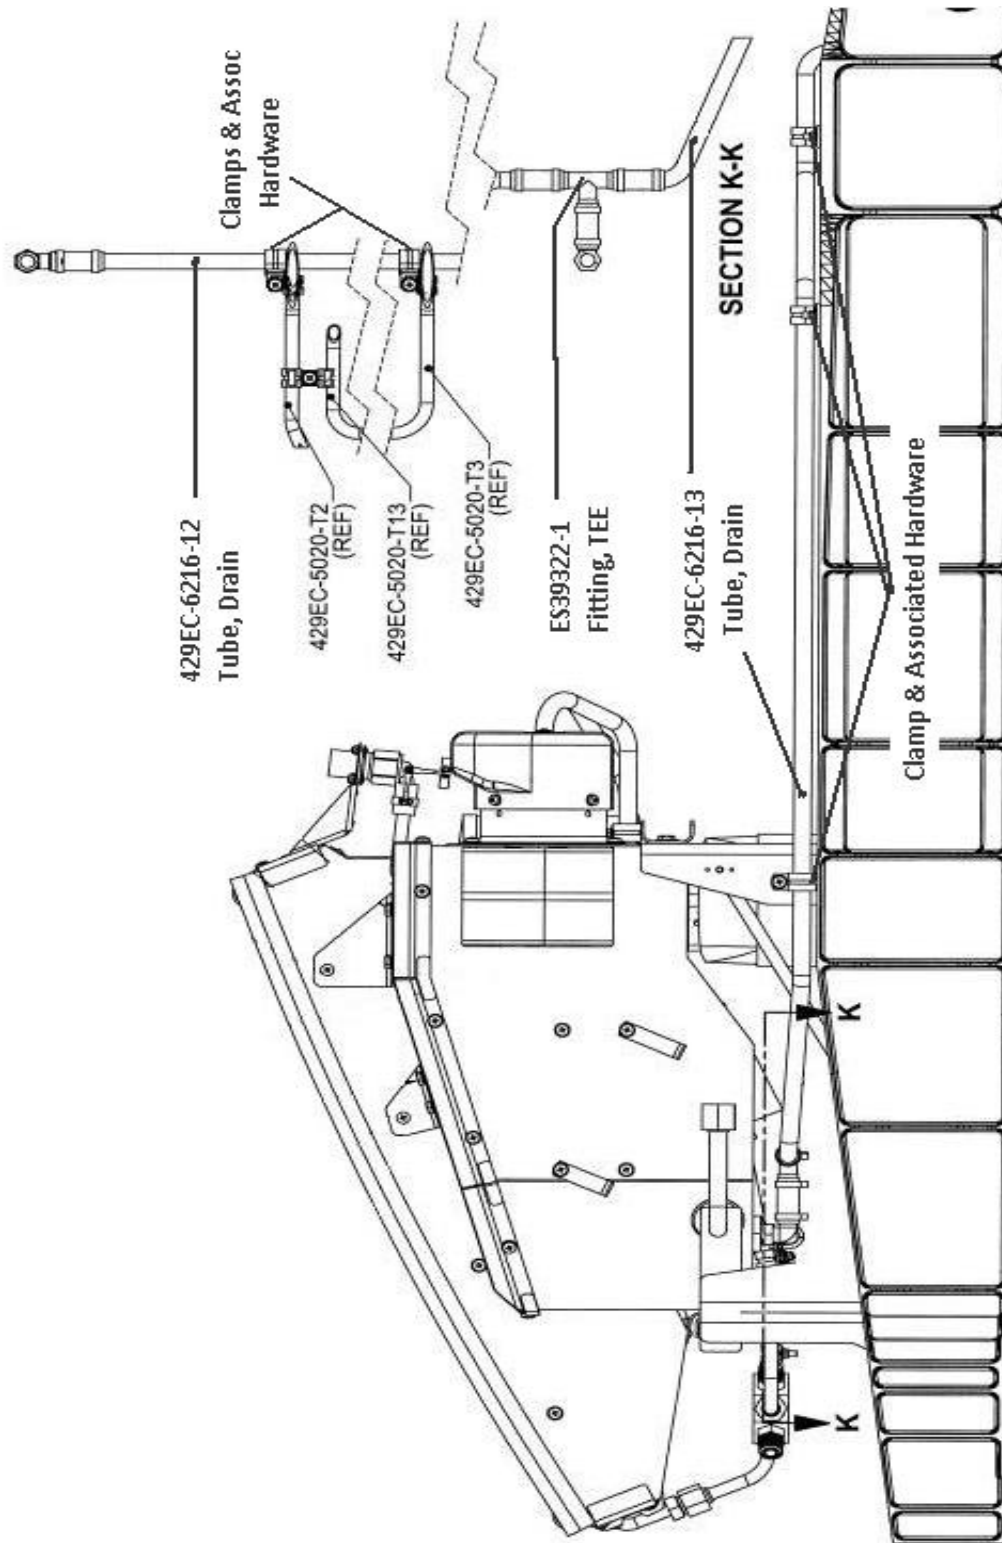

Figure 5: Removal of Existing Drain Lines and Attaching Hardware
- e. Remove drain tube 429EC-6216-12 & drain tube 429EC-6216-13 assemblies along with attaching hardware and discard. (Figure 5)
- f. Remove ES48150-2 drain Hose and tee fitting, ES39332-1 (Dual Evap) along with attaching hardware and discard. (Figure 5)